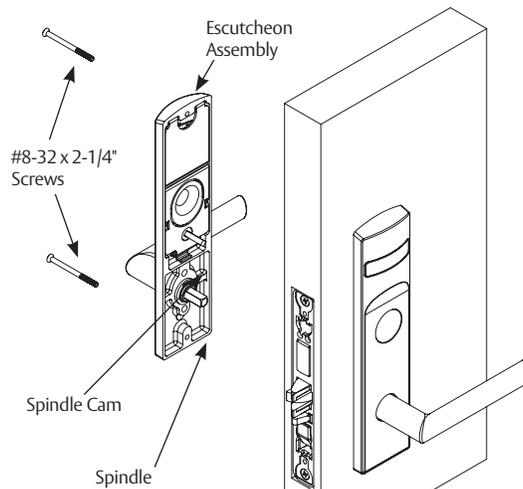

Figure 23
2. Align escutcheon, and be sure lever is horizontal. (Figure 23)